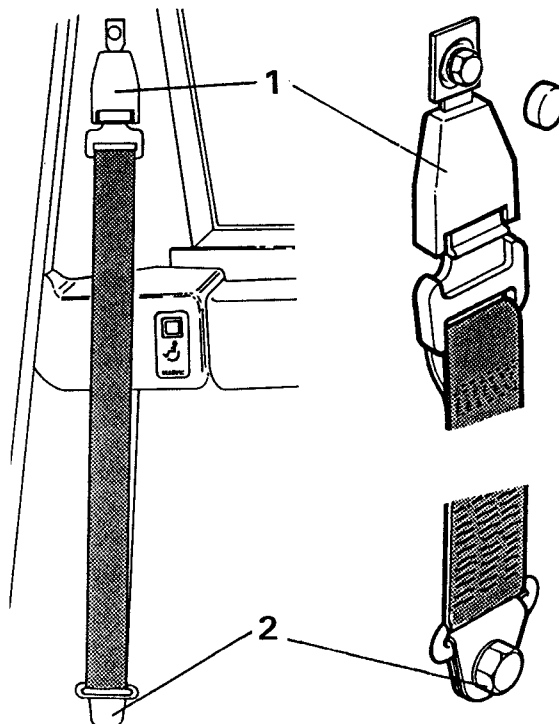

Figure 6
2. Prise off the plastic cover of the pillar anchorage point. Remove the screw and washer. See figure 6.